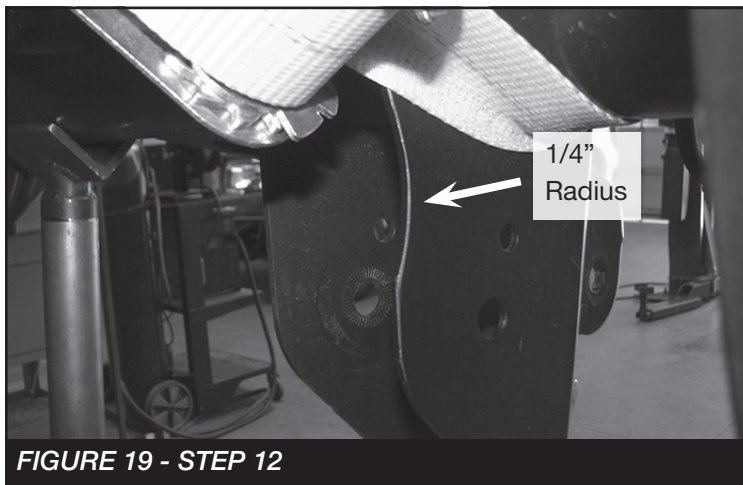

FIGURE 19 - STEP 12
12. Locate the lower control arm mount on the rear axle. The outer side only of the factory mount will need to be trimmed 1/4" radius on both driver and passenger sides. **SEE FIGURE 19**